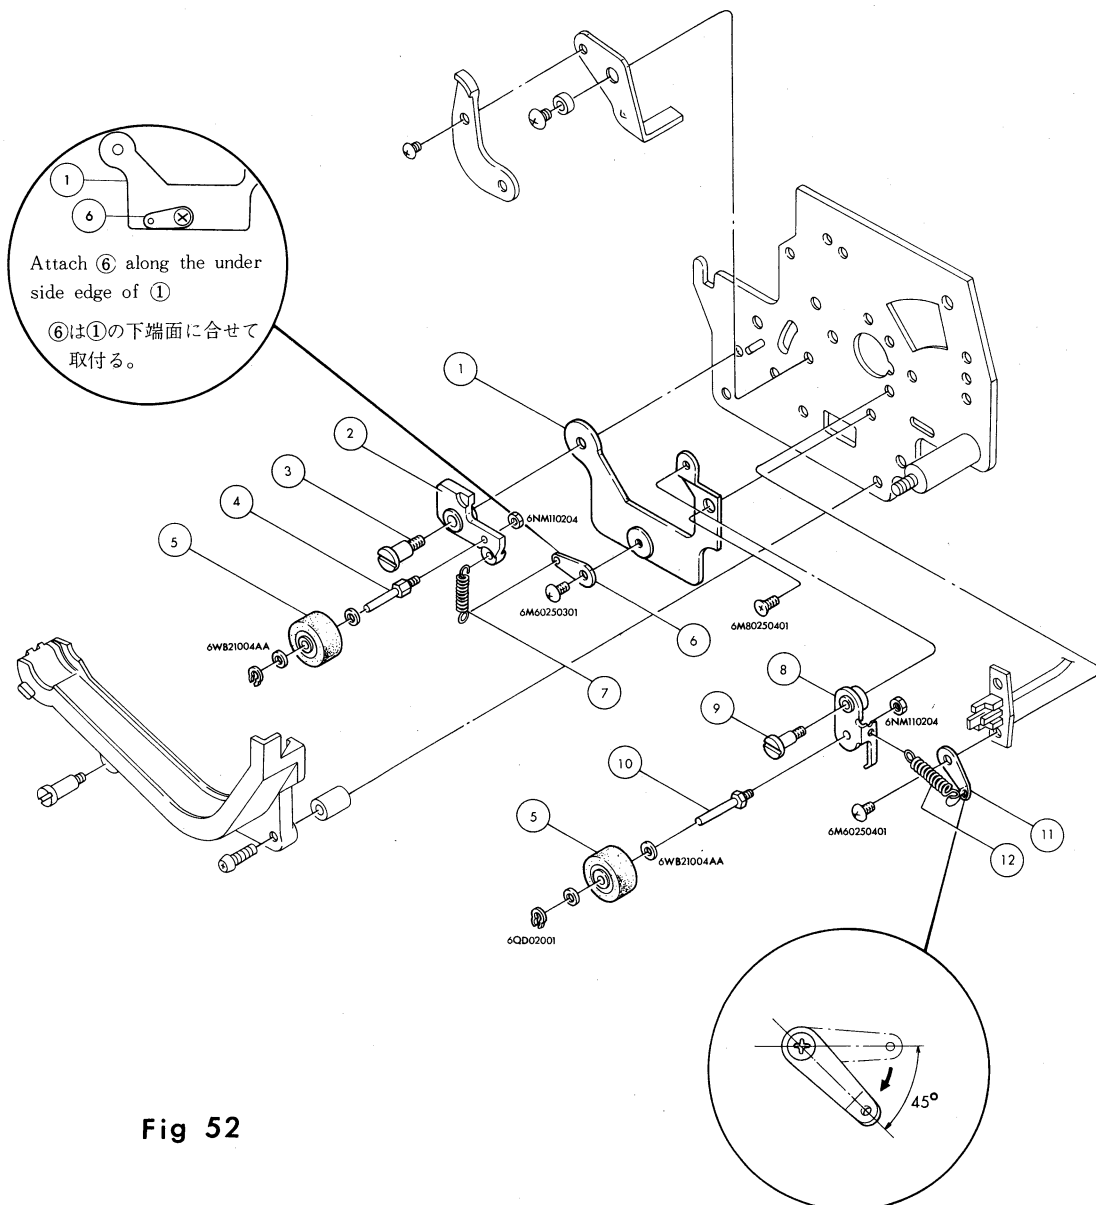

Fig 52
A. Disassembly Refer to Fig.52.
1. Assemble the parts, referring to Fig.52.